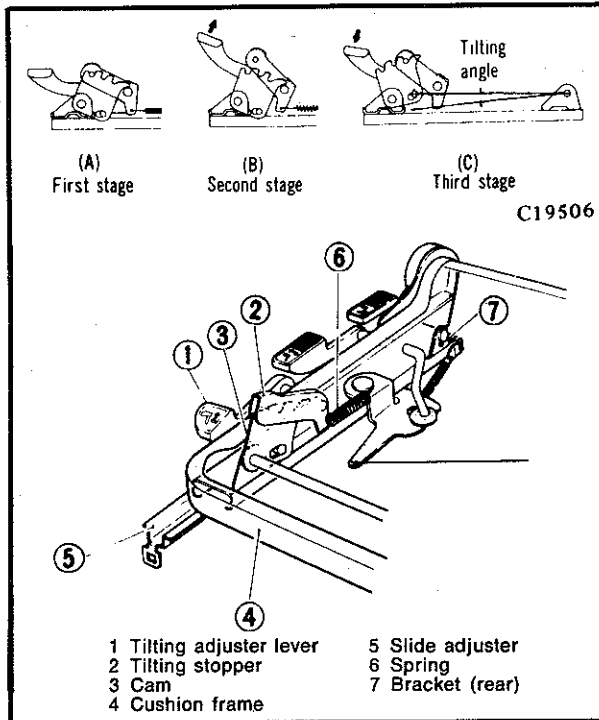

Fig. 38—Tilt adjuster mechanism
When the tilting adjuster lever is moved upward, the tilting stopper (2) moves upward at the same time, disengaging it from the cam (3) (B in Fig. 38).